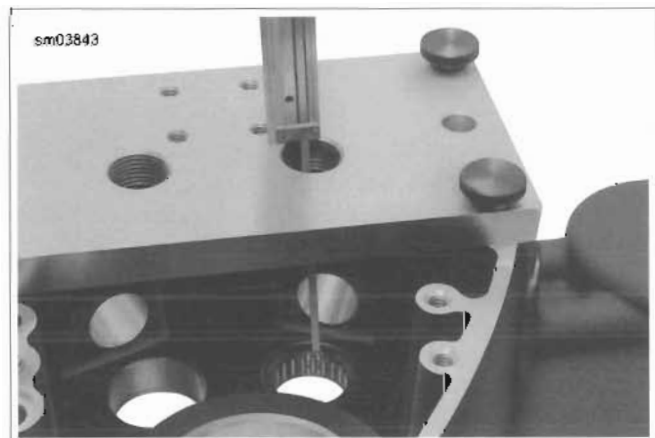

Figure 3-107. Measure from Top of Support Plate to Edge of Needle Bearing
- c. See Figure 3-107. Insert dial caliper through forcing screw bore and measure distance from top of support plate to edge of needle bearing.